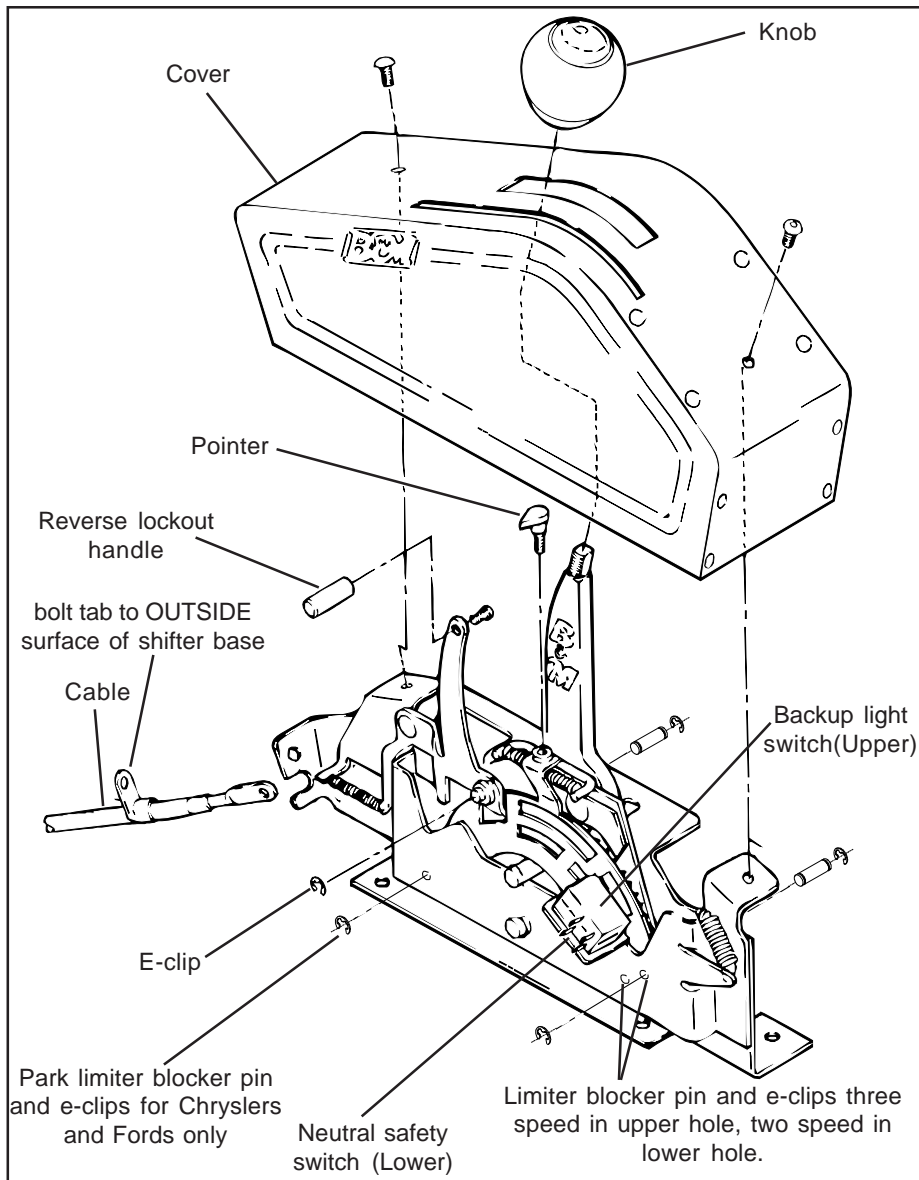

Figure 1
**NOTE:** If you are installing this shifter with a GM four speed automatic transmission, you must remove the three speed limiter blocker pin and the e-clips indicated in **Figure 1**. Removing this blocker pin gives the shifter four forward positions rather than three. For Ford AOD four speed automatic transmissions and Chrysler A-500 and A-518 four speed automatic transmissions do **not** remove this blocker pin, since these transmissions have only three forward positions. Also do **not** remove the blocker pin
If you are installing this shifter with a Ford or Chrysler three or four speed automatic transmission you must install the Park limiter blocker pin and the e-clips as also indicated in **Figure 1**. This limiter limits the shifter travel into the Park position, so that it does not stretch the cable since Ford and Chrysler transmissions have less travel between Reverse and Park than GM transmissions do.
**STEP 5.** Install the cable on the shifter as shown in **Figure 1**. The cable attachment tab should be bolted to the outside surface of the shifter base using the supplied 1/4" X 1/2" bolt, lock washer and nut. Install e-clip to secure the cable.
**STEP 6.** Install the backup light switch and the neutral safety switch in place on the shifter mechanism as shown in **Figure 1**. Install them using the two supplied #4-40 screws, nuts and lock washers. If necessary, bend the fingers slightly so that they engage the slots. **Caution:** Overtightening the switch attachment screws will crack the switch housings.
**STEP 11.** If you have a four speed automatic transmission, be sure that you have removed the three speed limiter blocker pin shown in **Figure 1**. If you have a three speed automatic transmission, the three speed lim-
chanical interlock, otherwise you have a neutral safety switch. With either type, disconnect the battery ground cable to prevent accidental shorts. If you have a neutral safety switch, locate and identify the neutral safety wires (engine will not crank unless these wires are connected together). Extend the wires from the GM switch to the shifter. Strip a 1/4" of insulation off the wires and install the slip-on terminals supplied in the kit. Crimp the terminals onto the wires using a crimping tool or pliers. Connect the neutral safety wires to the **LOWER** switch and the backup light wires to the **UPPER** switch (See Figure 1). Tape the terminal connections and all other connections to prevent shorts.
**STEP 17.** Be sure that the Park limiter blocker pin and the three speed limiter blocker pin are both installed as shown in Figure 1. The Park limiter will prevent the shifter from additional travel beyond the Ford Park position. (GM transmissions have greater travel between Neutral and Park than Ford transmissions do). The three speed limiter blocker pin is required because all Ford three and four speed automatic transmissions have only three forward gear positions, even the four speed AOD.
On the C-4 and the C-5 transmissions it is necessary to completely remove the stock neutral safety/backup light switch in order to install the **B&M** transmission shift lever. On the C-4, the C-5 and the C-6 transmissions, it will be necessary to hook up the neutral safety/backup light switches on the **B&M Pro Ratchet Shifter**. Locate and identify the neutral safety (the engine will not crank unless these wires are connected together) and the reverse light wires. Disconnect the battery ground cable before beginning to wire the neutral safety and the reverse light switches. Reroute the wires to the **B&M Pro Ratchet Shifter**. Strip a 1/4" of insulation off the wires and install the supplied slip-on terminals. Crimp the terminals onto the wires using a crimping tool or pliers. Connect the neutral safety wires to the **LOWER** switch and the reverse light wires to the **UPPER** switch (See Figure 1). Tape the terminal connections to prevent shorts. Reconnect the battery ground cable, disconnect the coil wire and set the parking brake. Check the switch operation by attempting to start the motor in each shifter position. **The starter must crank only when the shifter is in the Park or the Neutral posi-**
**STEP 22.** Be sure that the Park limiter blocker pin and the three speed limiter blocker pin are both installed as shown in **Figure 1**. The Park limiter will prevent the shifter from additional travel beyond the Chrysler Park position. (GM transmissions have greater travel between Neutral and Park than Chrysler transmissions do). The three speed limiter blocker pin is required because all Chrysler three and four speed automatic transmissions have only three forward gear positions, even the four speed A500 and A518.
**STEP 24.** Neutral safety/backup light switch. '66-'68: The neutral safety switch will continue to function normally. It will not be necessary to hook up the neutral safety switch wires on the shifter. Disconnect the battery ground cable before wiring the backup light switch. Locate the original backup light switch on the steering column or the console shifter. Run these wires to the **UPPER** switch on the **B&M Pro Ratchet Shifter (See Figure 1)**. Reconnect the ground wire and check the light for proper operation. Adjust the switches on the shifter if required.
**STEP 35.** Be sure that the two speed limiter blocker pin and e-clips are installed as shown in **Figure 1**. The two speed limiter blocker pin is required because the Powerglide has only